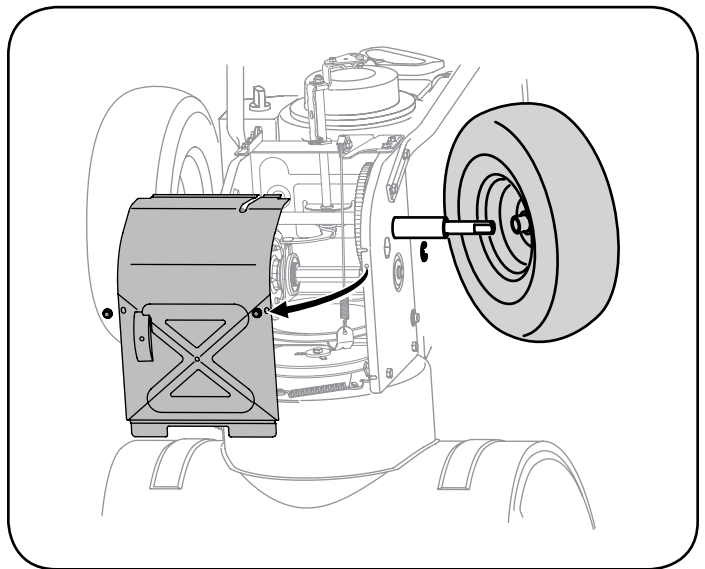

Figure 59
- Remove the right-hand wheel by removing the screw and bell washer which secure it to the axle. See Figure 59.